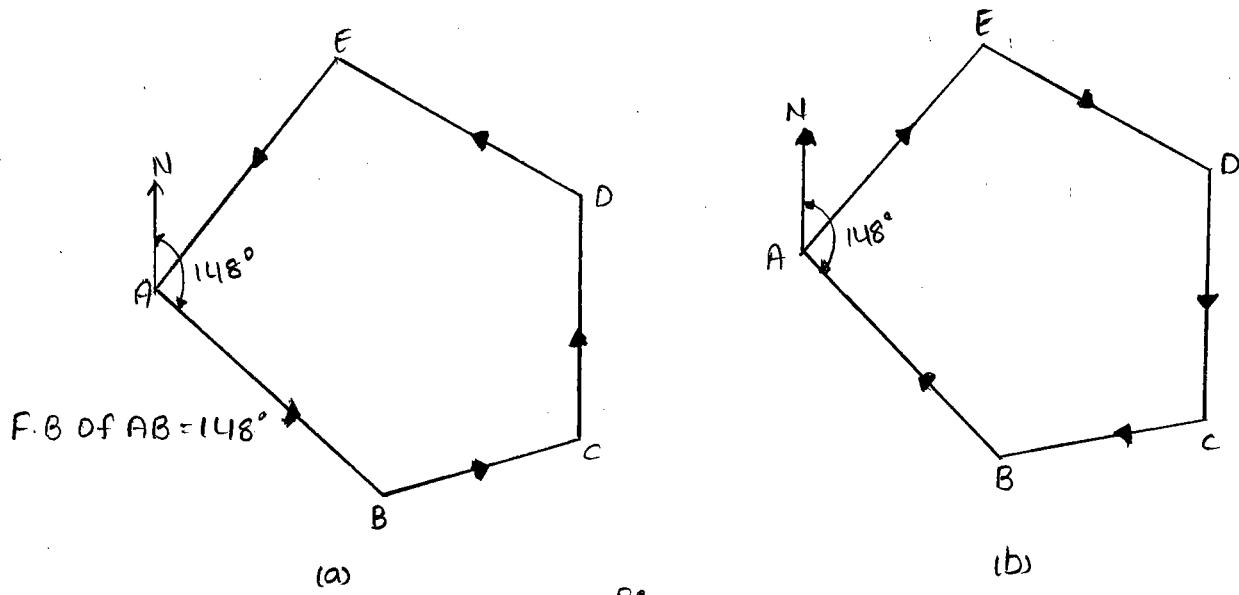

Fig. 1
* Figure 1(a) Shows a traverse ABCDE. As the direction of the progress of Survey is from A to B, the fore bearing of the line AB is 148° . Fig 1(b) Shows a traverse AFEDCB. As the direction of the progress of survey is from B to A, the back bearing of the line BA is 148° . The reader should note the order in which the alphabets A and B appear. As is evident from Fig. 1(a) and Fig. 1(b), the back bearing of BA is equal to the fore bearing of AB. Likewise, it can be shown that the fore bearing of BA is equal to the back bearing of AB.